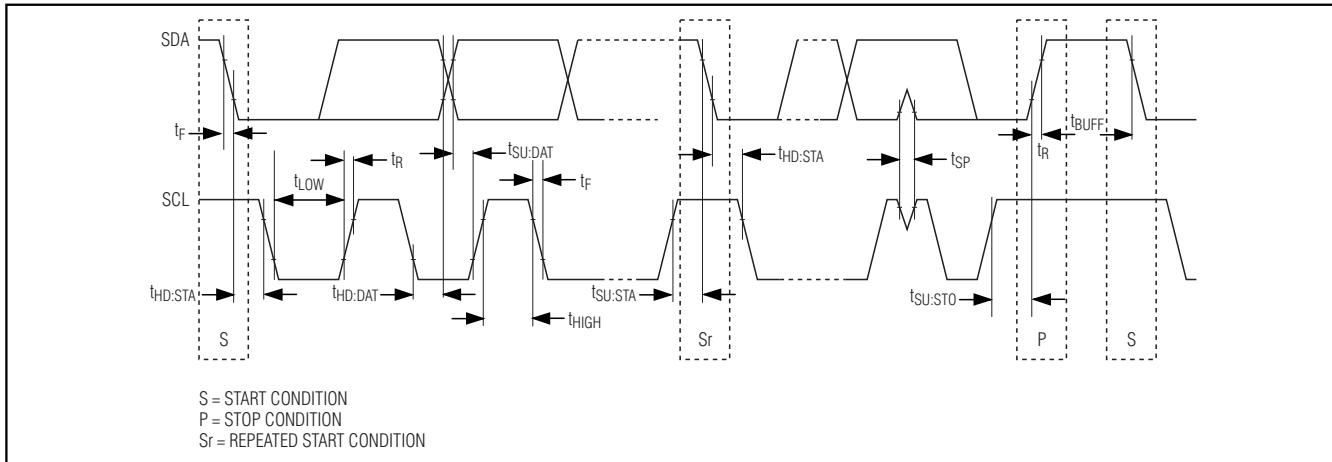

Figure 2. I²C Communication Timing Diagram
The I²C bus allows bidirectional, 2-wire communication between different ICs. The two lines are serial data line (SDA) and serial clock line (SCL). Both lines must be connected to a positive supply through individual pullup resistors (see the *Typical Application Circuit*). Data transfer can only be initiated when the bus is not busy (both SDA and SCL are high). Figure 2 shows a timing diagram for I²C communication.
Data transfer can only be initiated when the bus is not busy (both SDA and SCL are high). A high-to-low transition of SDA while SCL is high defines a START (S) condition; low-to-high transition of SDA while SCL is high defines a STOP (P) condition (Figures 2, 4). Any time a START condition occurs, the slave ID must follow immediately, regardless of completion of a previous data transfer.